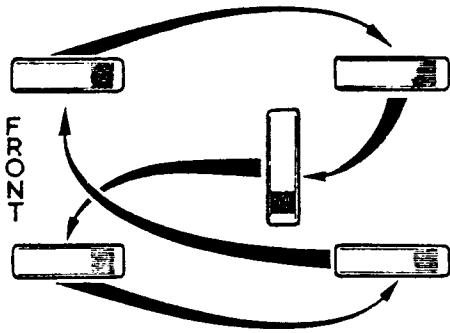

Fig P2.1
1. Refer to Fig P2.1. The road and spare wheels shall be changed round as illustrated to equalise tyre wear.